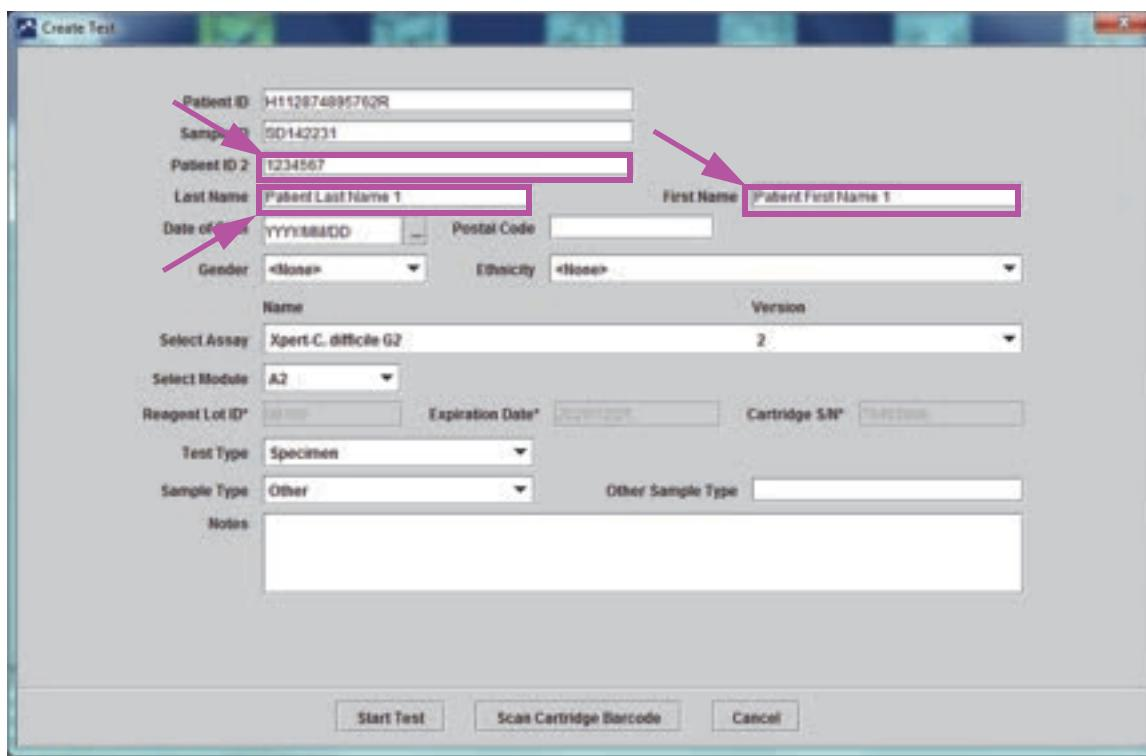

Figure 5-23. Create Test Dialog Box with the Patient ID and Sample ID Fields Shown
4. Scan the cartridge barcode using the supplied barcode scanner. See Section 5.5. The Create Test dialog box appears as shown in Figure 5-23. Note that the software automatically fills the required information into the Create Test window.
Important	<p>If you see multiple assays in the drop-down menu, select the desired assay.</p> <p class="list-item-l1">5. (Optional) If Patient ID 2 is enabled, place the cursor in the field. The Patient ID 2 can be either scanned or entered manually into the field.</p> <p class="list-item-l1">6. (Optional) If Patient Name is enabled, place the cursor in the Last Name field and enter the patient's last name then place the cursor in the First Name field and enter the patient's first name (see Figure 5-23).</p>